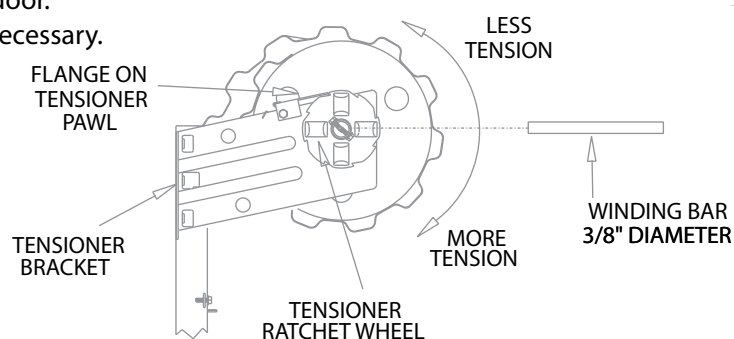

FIGURE 10
- Place 3/8" diameter winding bar in tensioner ratchet wheel. **See figure 10.**